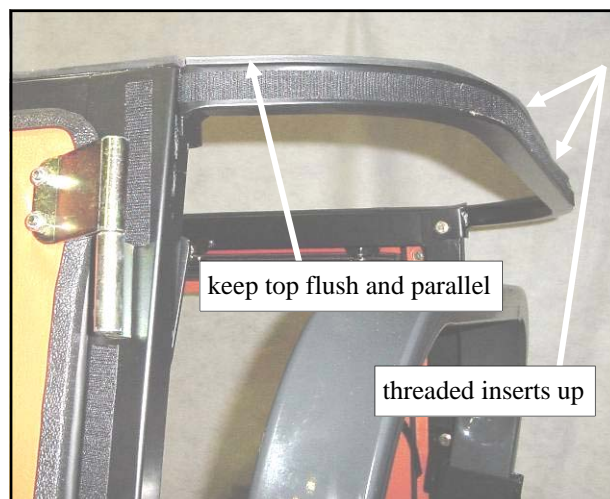

Fig. 14.1 (view from rear of left side)
**14.1** Install the upper rear tube so that the top surface is flush and the welded tab overhang is facing down. Use the following hardware per side: one 5/16-18 x 3/4" long hex head bolt and one steel washer into factory installed threaded inserts in the side frame tubing. See fig. 14.1. Important: make sure the top is flush, parallel, and pushed forward then tighten both bolts. Note: the roof will be sealing against the weatherseal provided on top of the upper rear tube and the top of the side frames.